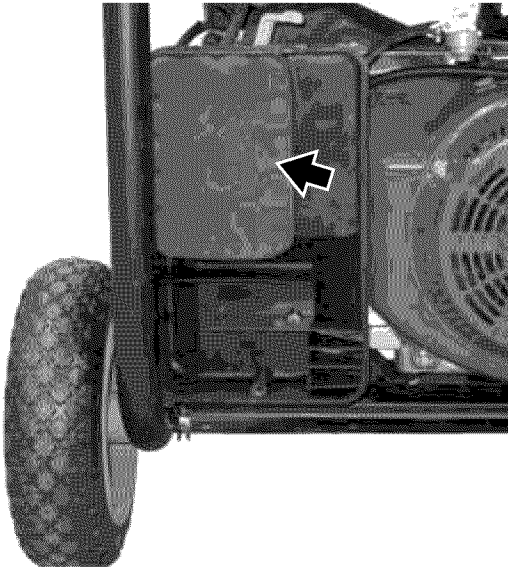

Figure 36 – Removing Air Filter Element
5. Remove the foam air filter element (see Figure 36).